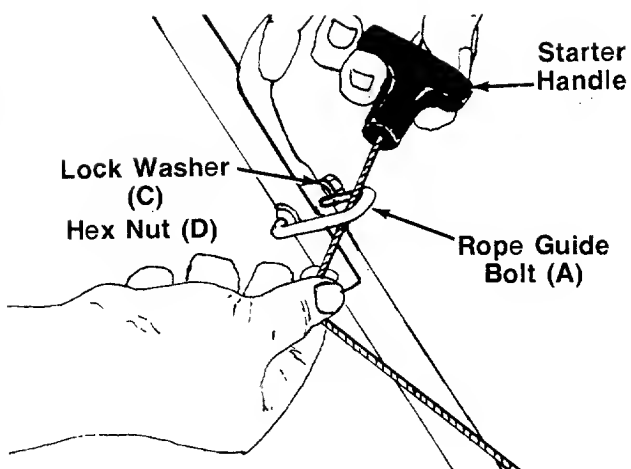

FIGURE 4.
5. Insert the rope guide bolt (A) through the right hand side of upper and lower handle. Secure with lock washer (C) and hex nut (D), finger tight only. See figure 4.
9. Slip the starter rope into the rope guide bolt as shown in figure 4. If more slack is needed in the starter rope, disconnect and ground the spark plug wire. Depress the blade control handle and pull additional rope out from the engine.